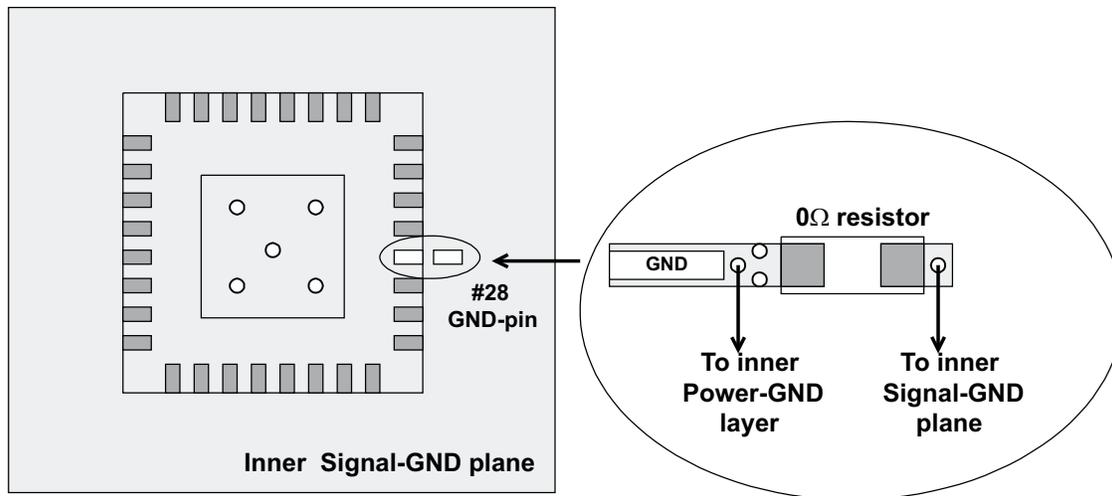

Figure 49. GND Layout Example
- Use signal GND for VREF2 and VREG3 capacitors, RF and VFB resistors, and the other sensitive analog components. Placing a signal GND plane (underneath the IC, and fully covered peripheral components) on the internal layer for shielding purpose is recommended. (See Figure 49)
- Use power GND for VREG5, VIN and VOUT capacitors and low-side MOSFETs. Power GND and signal GND should be connected near the device GND terminal. (See Figure 49)